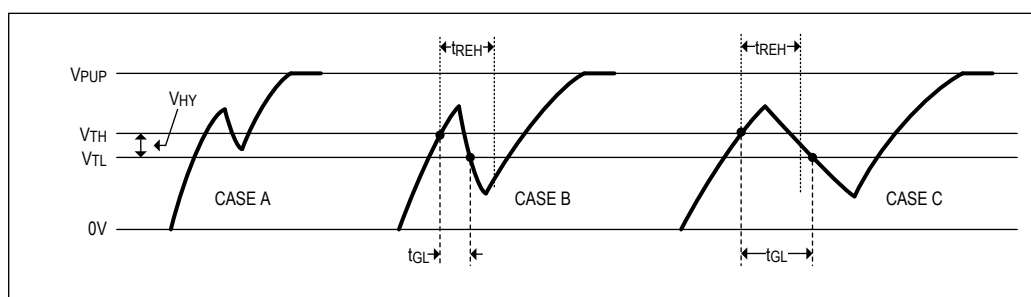

Figure 7. Noise Suppression Scheme
- On the low-to-high transition, if the line rises above  $V_{TH}$  but does not go below  $V_{TL}$ , the glitch is filtered (Figure 7, case A.)
- The rising edge hold-off delay (nominally 100ns),  $t_{REH}$ , filters glitches that go below  $V_{TL}$  before  $t_{REH}$  has expired (Figure 7, case B.) Effectively the device does not see the initial rise, and the  $t_{REH}$  delay resets when the line goes below  $V_{TL}$ .
- If the line goes below  $V_{TL}$  after  $t_{REH}$  has expired the glitch is not filtered and is taken as the beginning of a new time slot (Figure 7, case C.)